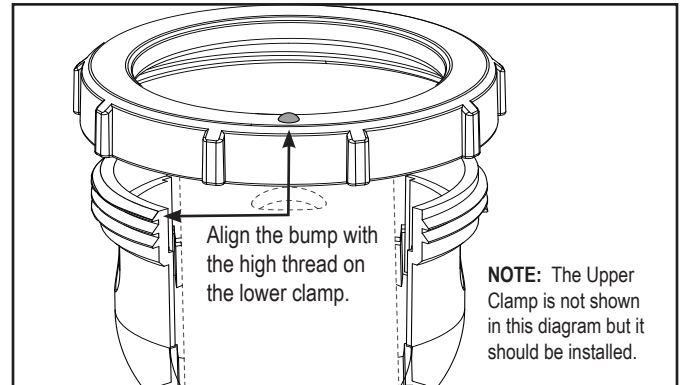

Figure 7. Locking Ring Alignment
5. Position the locking ring in proper alignment, making sure the bump aligns with the top thread (see Figure 7).